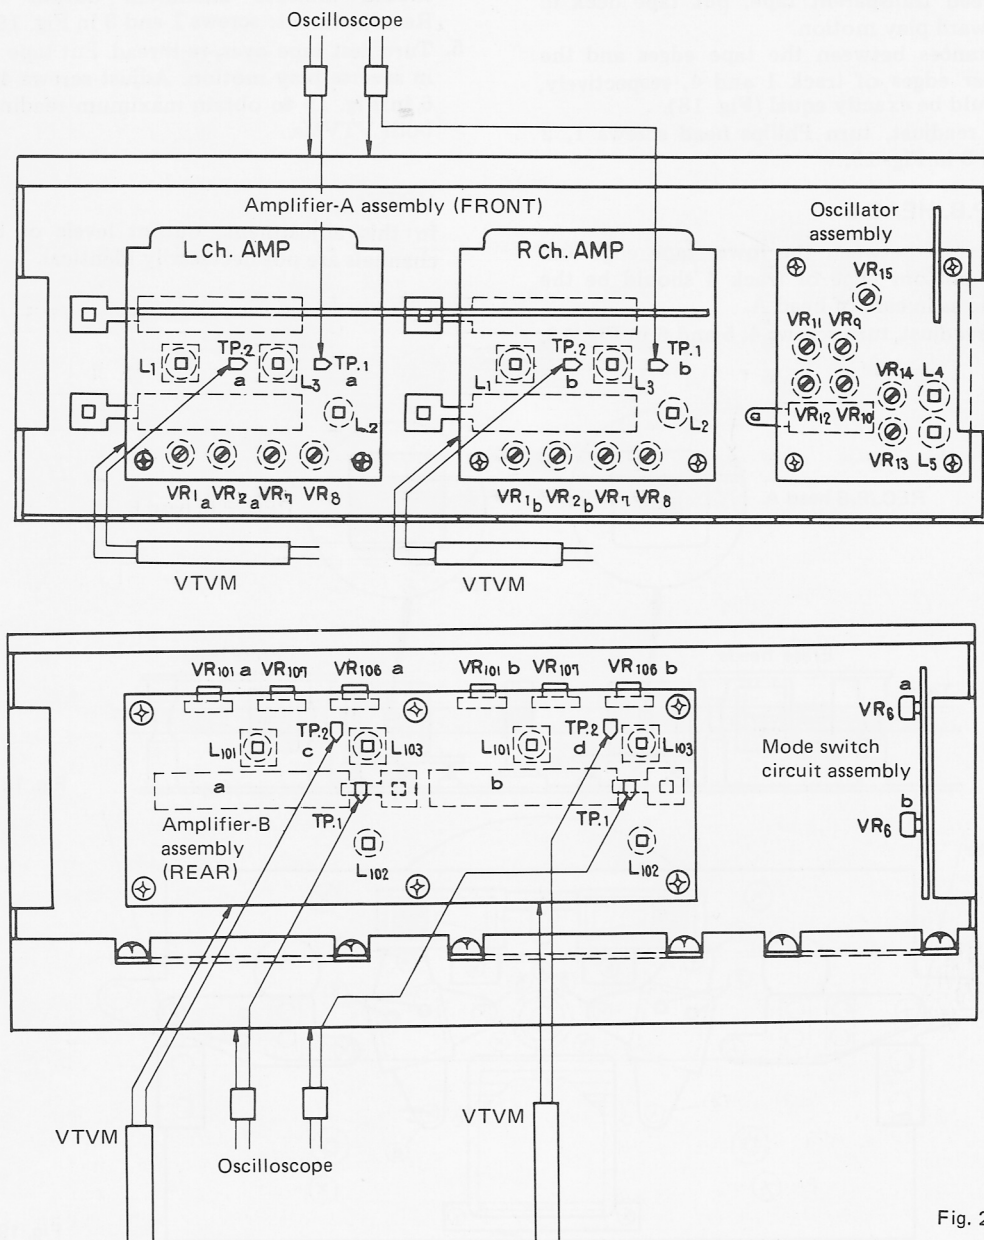

Fig. 22
1. Connect measuring instruments as shown in Fig. 22.
3. Amplitude at TP1 (Fig. 22) should be 3V or less. Adjust by L3 (front) and L103 (rear). Note that there are a total of four check points designated TP1, two for the front and two for the rear channels.